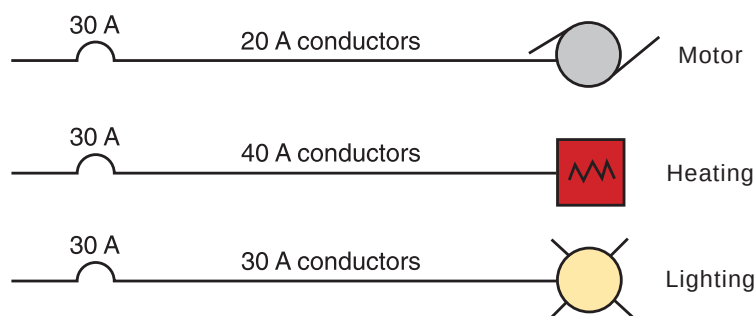

FIGURE 4-14 The rating of branch circuits is determined by the overcurrent device. (Delmar/Cengage Learning)
- The rating of the OCPD becomes the rating of the branch circuit regardless of the conductor size or load type. See Figure 4-14 and *NEC 210.3*.
- A footnote to *NEC Table 310.15(B)(16)* must be observed when selecting 14, 12, or 10 AWG conductors. This footnote refers to *NEC 240.4(D) Small Conductors*. In this section, the OCPD ratings for copper conductors of 14, 12, and 10 AWG are limited to 15, 20, and 30 amperes, respectively. For aluminum and copper-clad aluminum conductors of 12 and 10 AWG, the ratings are limited to 15 and 25 amperes. *NEC 240.4(E), (F), and (G)* should be consulted for exceptions. For example, conductors installed for motors under *Article 430* and for air-conditioning equipment under *Article 440* are exempt from these small conductor rules.